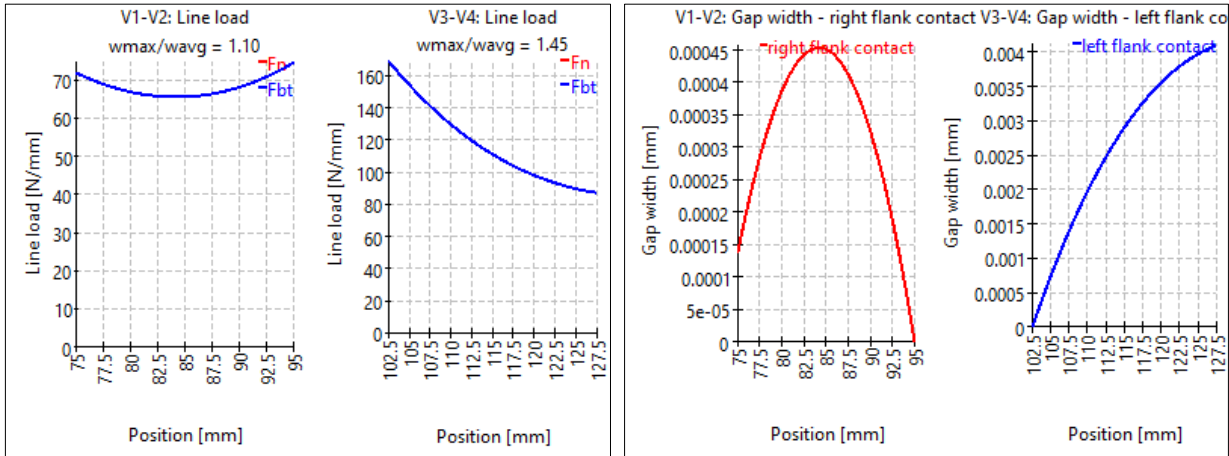

Figure 49
In addition to numerous other graphics available under the Graphics menu for evaluating the gearing, the line load and gap width over position for the current calculation are shown below (Figure 49).
- ➔ The diagrams (Figure 49) were generated using the Increase shaft diameter setting. Tooth engagement stiffness, shaft stiffness, and bearing stiffness influence these diagrams. Additionally, manufacturing errors and housing stiffness also affect the real gearbox.